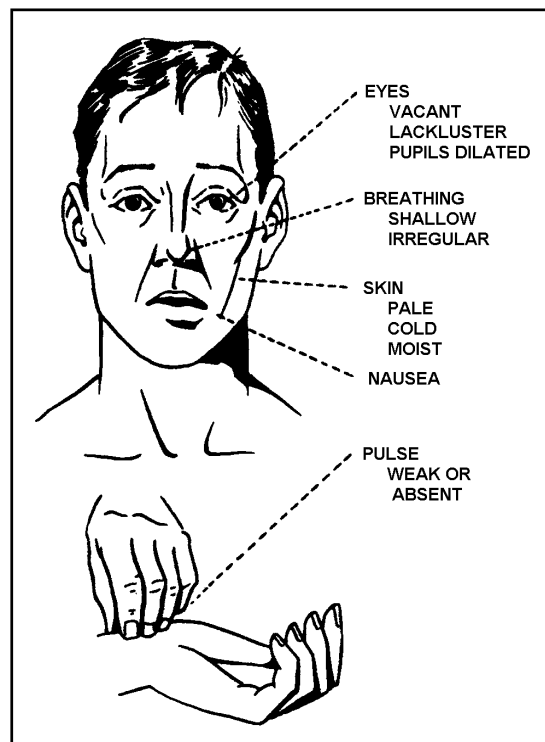

Figure 1-9.—Symptoms of shock.
**HOW TO RECOGNIZE SHOCK.**—A person who is going into shock may show quite a few signs or symptoms, some of which are indicated in figure 1-9 and are discussed below. Remember, however, that signs of shock do not always appear at the time of the injury; indeed, in many serious cases they may not appear until hours later.